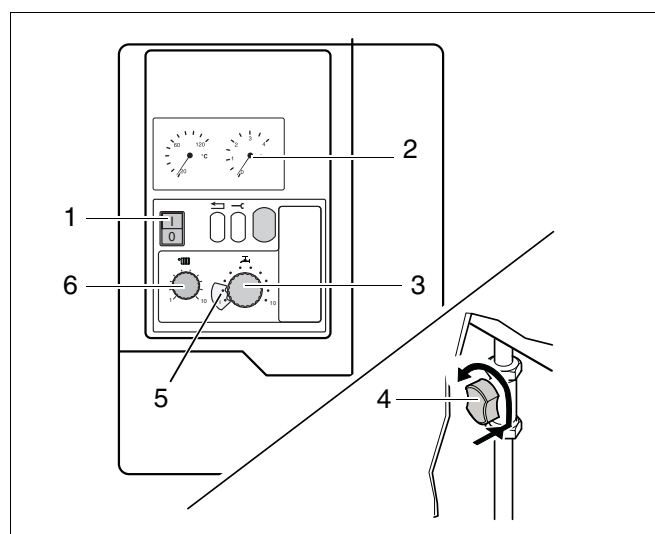

Fig. 8 Control panel, pressure display, gas service valve, temperature indicator
- Set flow temperature at the control unit (fig. 8, item 6) (see table 1).
- Set hot-water temperature for 600 - 24 C with integrated hot-water supply at knob (fig. 8, item 3) (see table 2).
For energy saving (no heat-retention function) move knob (fig. 8, item 3) to cold-start-setting "1".
- Set hot-water temperature for 600 Series with external tank at control unit (fig. 8, item 3) using table 3.
- Open the gas service valve by pushing in and turning anticlockwise into a vertical position (fig. 8, item 4).
- Push the mains power switch (fig. 8, item 1) to "I".